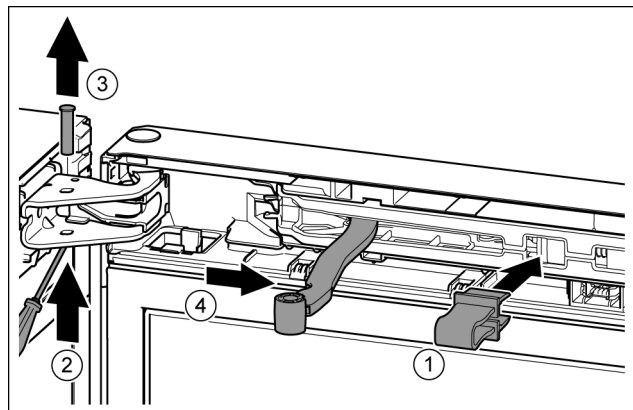

Fig. 11
- Engage the locking device in the opening. *Fig. 11 (1)*
- Unscrew the bolt with a screwdriver. *Fig. 11 (2)*
- Remove the bolt in an upward direction. *Fig. 11 (3)*
- Turn the hinge in the direction of the door. *Fig. 11 (4)*